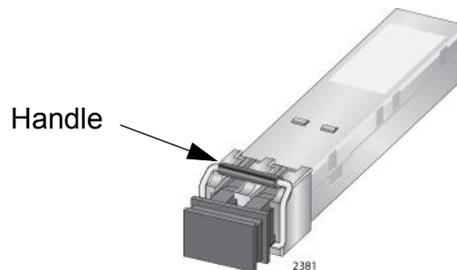

Figure 25. Handle on SFP Transceiver
3. If you are installing the module in the top SFP+ slot, position the module with the handle facing up as shown in Figure 25. If you are installing the module in the bottom slot, position the module with the handle facing down.